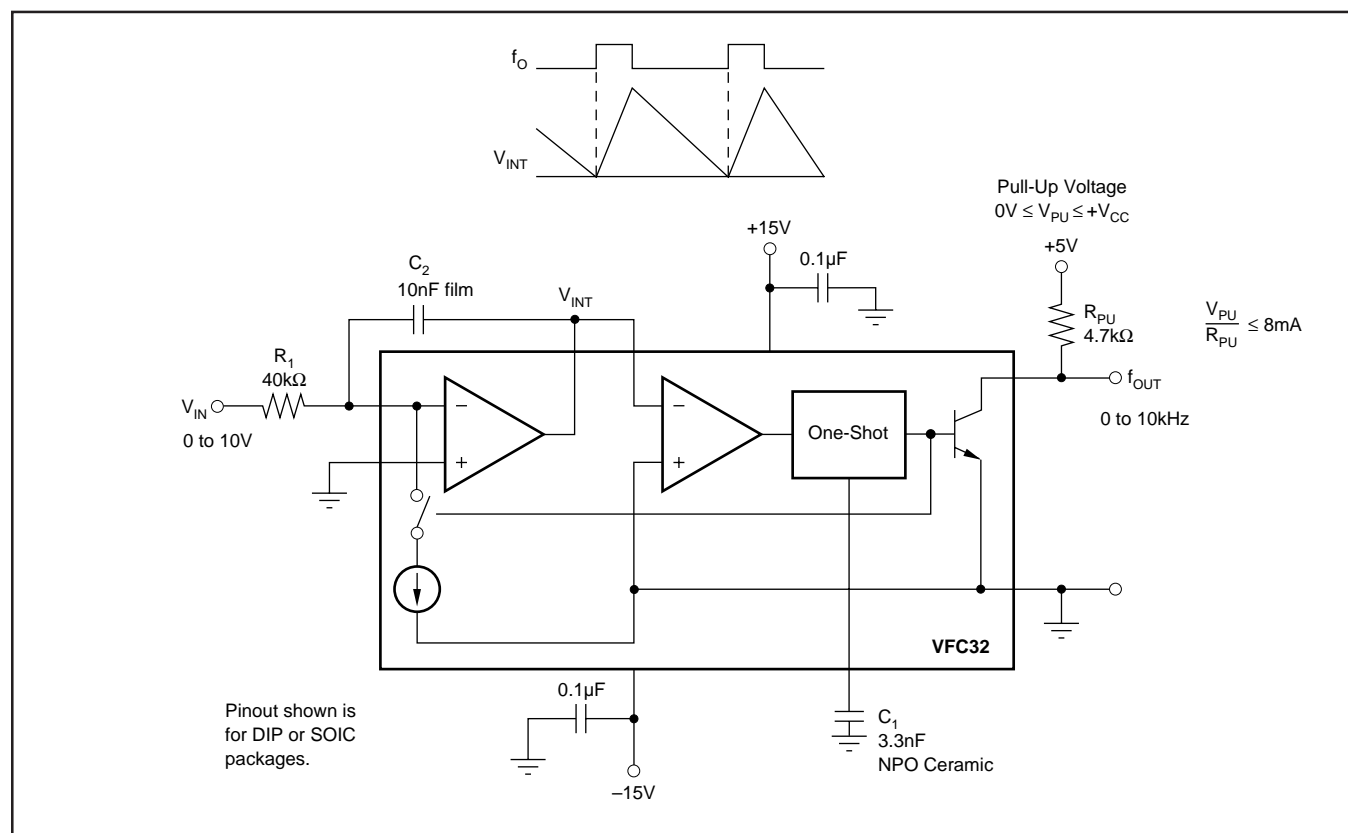
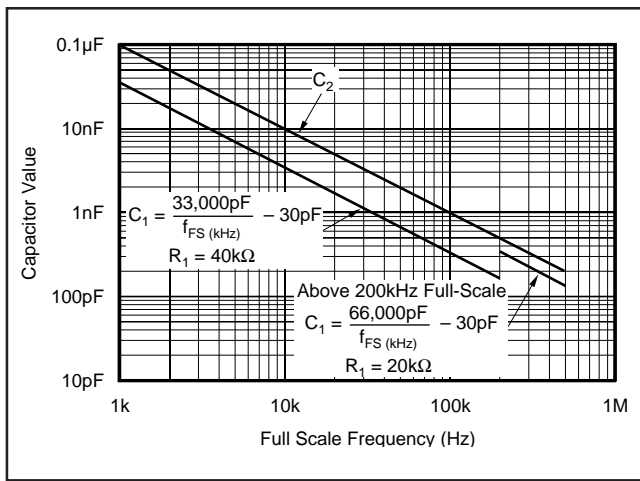
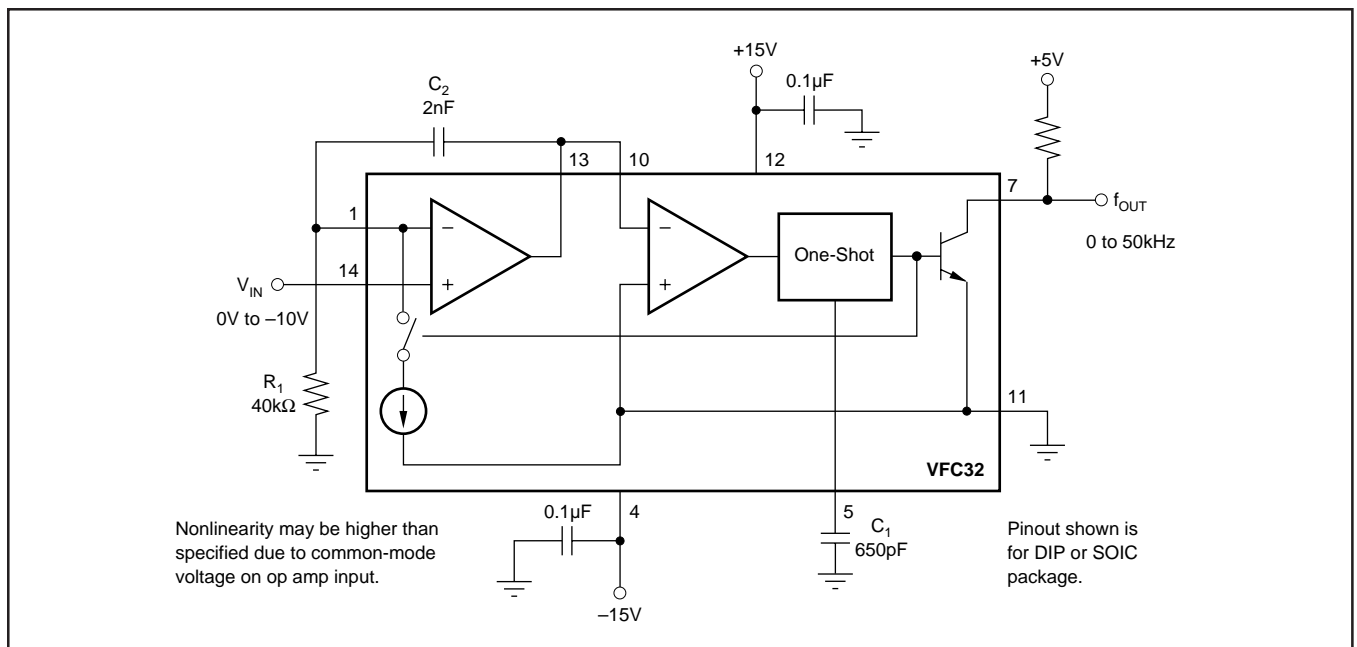

FIGURE 1. Voltage-to-Frequency Converter Circuit.
FIGURE 2. Capacitor Value Selection.
FIGURE 5. V/F Converter—Negative Input Voltage.
NOTES: (1) A 25% duty cycle (0.25mA input current) is recommended for best linearity. (2) Adjustable to zero. See Offset and Gain Adjustment section. (3) Linearity error is specified at any operating frequency from the straight line intersecting 90% of full scale frequency and 0.1% of full scale frequency. See Discussion of Specifications section. Above 200kHz, it is recommended all grades be operated below $+85^\circ\text{C}$. (4) $\pm 0.015\%$ of FSR for negative inputs shown in Figure 5. Positive inputs are shown in Figure 1. (5) FSR = Full Scale Range (corresponds to full scale frequency and full scale input voltage). (6) Exclusive of external components' drift. (7) Positive drift is defined to be increasing frequency with increasing temperature. (8) For operations above 200kHz up to 500kHz, see Discussion of Specifications and Installation and Operation sections. (9) One pulse of new frequency plus 1 μs .
Figure 1 shows the basic connection diagram for frequency-to-voltage conversion. R_1 sets the input voltage range. For a 10V full-scale input, a 40k Ω input resistor is recommended. Other input voltage ranges can be achieved by changing the value of R_1 .
The full-scale output frequency is determined by C_1 . Values shown in Figure 1 are for a full-scale output frequency of 10kHz. Values for other full-scale frequencies can be read from Figure 2. Any variation in C_1 —tolerance, temperature drift, aging—directly affect the output frequency. Ceramic NPO or silver-mica types are a good choice.
For full-scale frequencies above 200kHz, use larger capacitor values as indicated in Figure 2, with $R_1 = 20\text{k}\Omega$.
The value of the integrating capacitor, C_2 , does not directly influence the output frequency, but its value must be chosen within certain bounds. Values chosen from Figure 2 produce
approximately 2.5Vp-p integrator voltage waveform. If C_2 's value is made too low, the integrator output voltage can exceed its linear output swing, resulting in a nonlinear response. Using C_2 values larger than shown in Figure 2 is acceptable.
The value of C_1 is chosen from Figure 2 according to the full-scale input frequency. C_2 smooths the output voltage waveform. Larger values of C_2 reduce the ripple in the output voltage. Smaller values of C_2 allow the output voltage to settle faster in response to a change in input frequency. Resistor R_1 can be trimmed to achieve the desired output voltage at the full-scale input frequency.